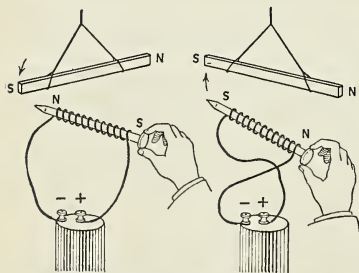

Fig. 295. A homemade electromagnet.
You can easily make an electromagnet by wrapping some insulated wire around a nail and connecting with a cell (Fig. 295).
**The right-hand rule.** If you bring one end of your electromagnet near a freely swinging bar magnet, you will notice that one end of your electromagnet will attract the north pole and repel the south pole. This shows that this end is a south pole and the other end is a north pole. If you disconnect the wires on the dry cell and reverse the wires (Fig. 295) so that the current flows through the coil in the opposite direction, you will notice that the former north pole of your coil is now a south pole and the former south pole becomes a north pole. In other words, there is a definite relation between the direction of the current in the coil and the polarity of the electromagnet. A rule for finding the north pole of any electromagnet is this: *Grasp the coil with your right hand, having the fingers pointing in the direction of the current in the wire; then the thumb will point to the north*